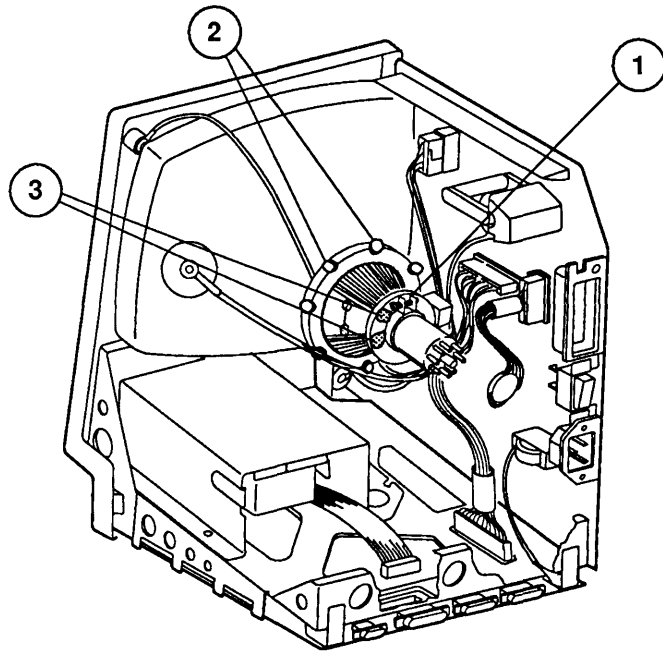

FIGURE 3
3. Loosen the yoke clamp screw (Figure 3, #1) two or three turns.
5. Put one hand behind your back and with your other hand grasp only the plastic spokes of the yoke collar (Figure 3, #2). Rotate the yoke and observe the effects on the picture. Rotate the yoke until the top and bottom edges of the picture appear parallel with the top and bottom edges of the bezel.
7. Connect the power cord and turn the power on. Locate the two centering rings on the yoke assembly (Figure 3, #3). The adjustment of these rings determines whether the picture is centered or offset to one side.